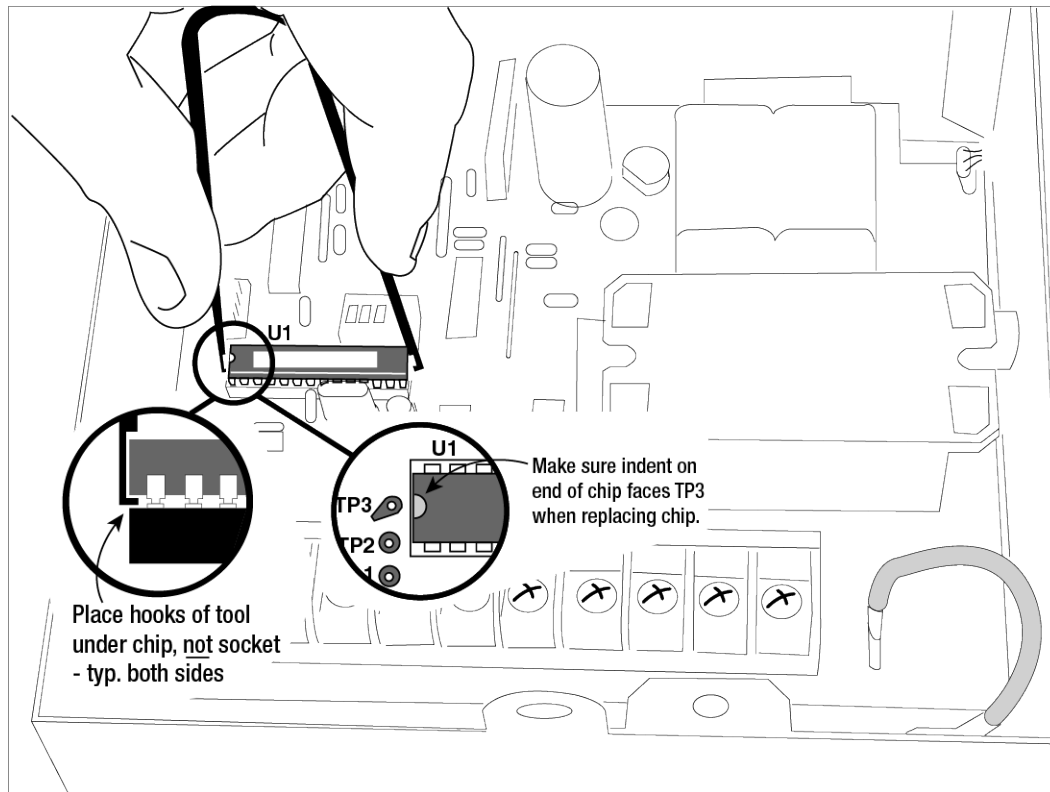

Figure A-4. Removing Software PROM U1 From IQ Control Box
4. Position the small hooks in the ends of the chip removal tool under the ends of U1 as shown in Figure A-4. Rock the tool lengthwise as you pull on the chip to lift it out of socket.
5. Orient the new upgrade chip with the end having a semicircle indent pointing toward TP3 as shown in Figure A-4. Carefully align the chip pins over the holes in socket and gently push the chip into the socket. Firmly seat the chip in the socket. Remove and discard the anti-static wrist strap.